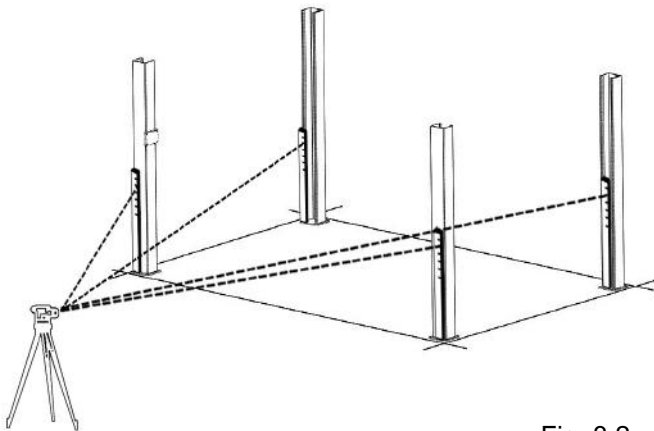

Fig. 3.2
2. To estimate the shim requirements, place a target on floor at each column position and record the readings. Find the highest of the four locations then find the difference between each of the remaining columns. This difference is the estimated amount of shim thickness that will be required at each column. (See Fig. 3.2 )